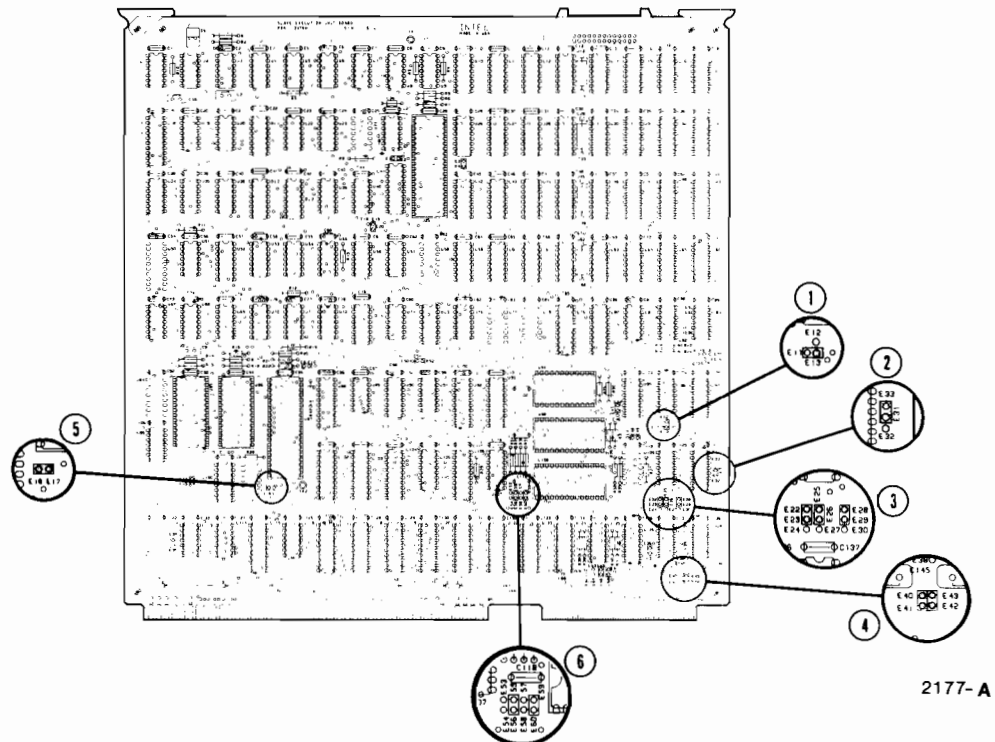

Figure B-10 Series IV, IEU Board Jumper Locations
3. Ensure that the IEU board is jumpered for serial I/O as specified in Table B-3; the jumper locations are shown in Figure B-10.
(See Location 6 in Figure B-10)